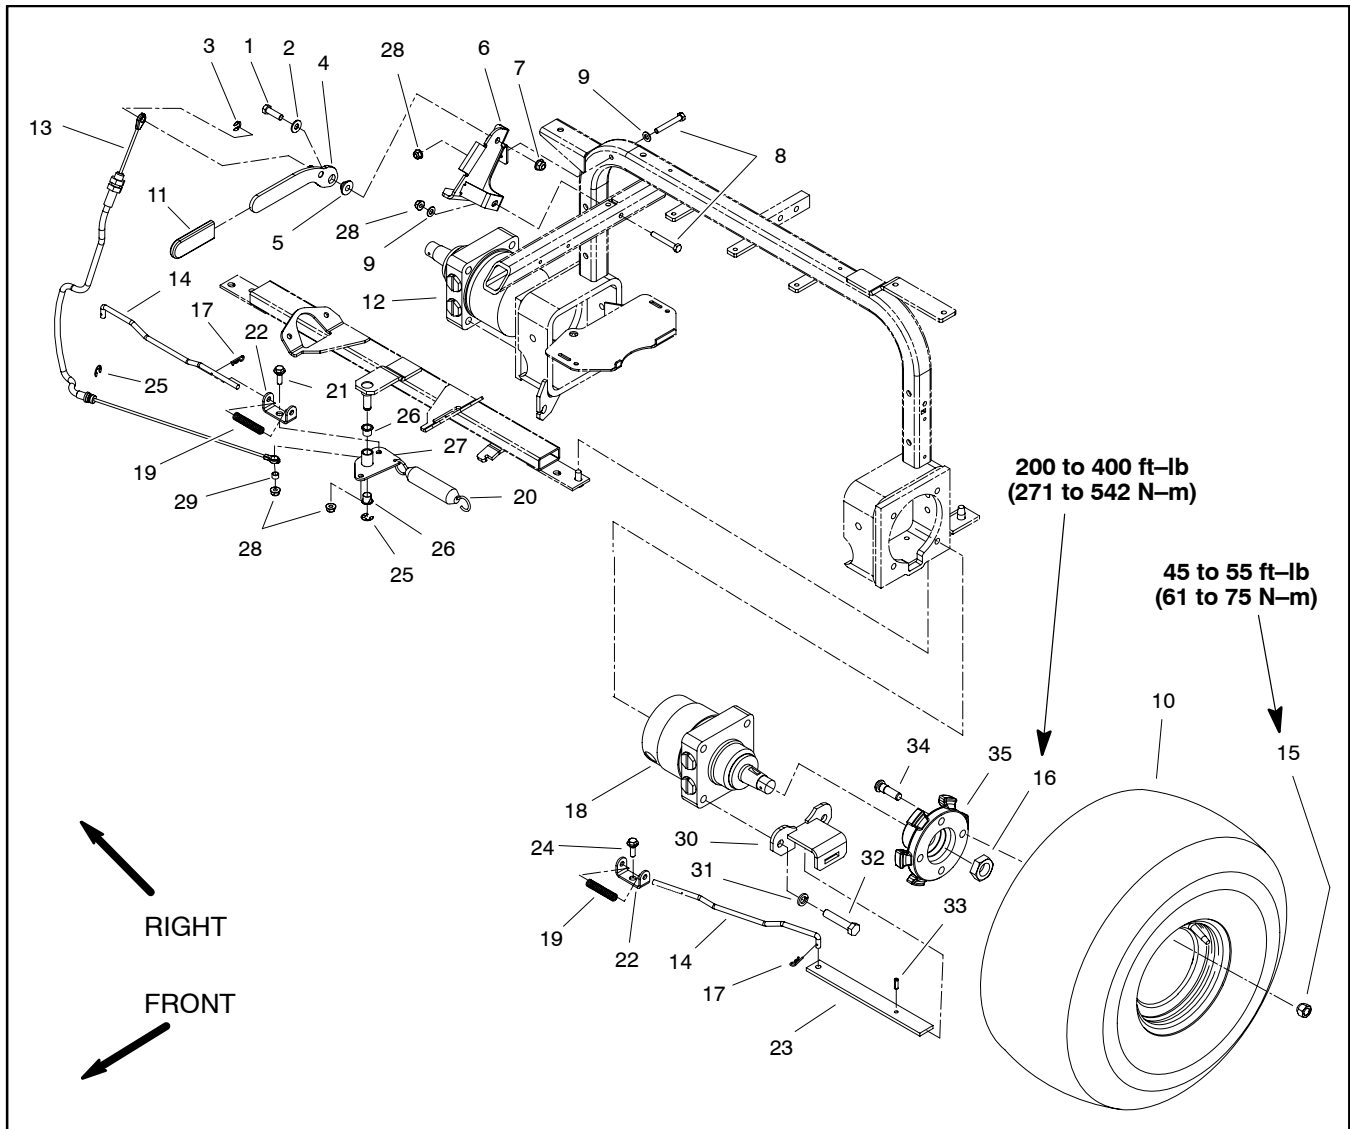

Figure 7
Removal (Fig. 7)
5. Remove parking brake components as needed using Figure 7 as a guide.
Installation (Fig. 7)
1. Install removed parking brake components using Figure 7 as a guide.